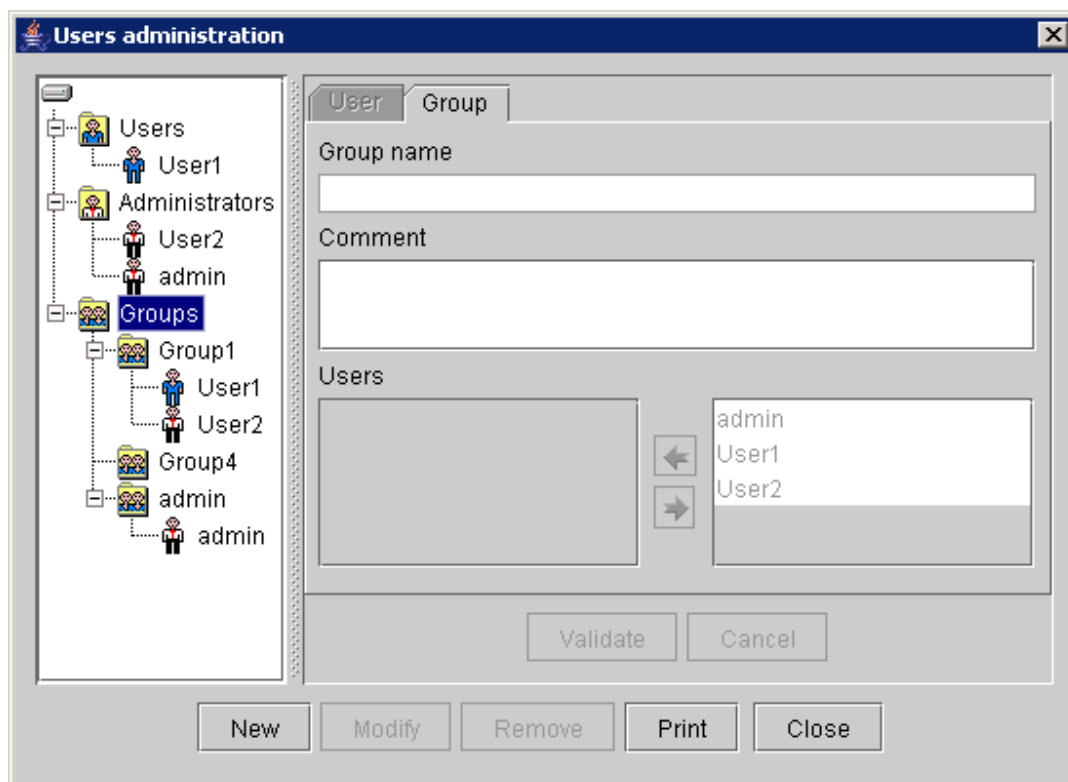

Figure 10 : Users group creation
- ◆ When the group is created, it appears in the **Groups** list (Figure 10).